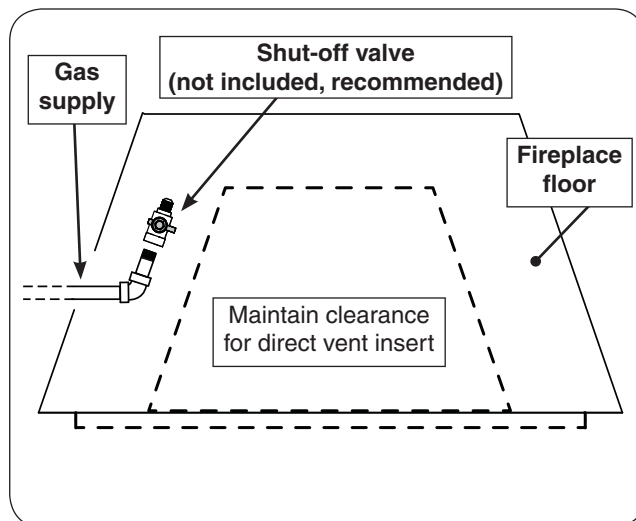

Fig. 24-1 Route gas supply
2. It is recommended that a gas shut-off valve (not included) be attached to the gas supply stub. Use a pipe compound resistant to all gasses. See Fig 24-1.